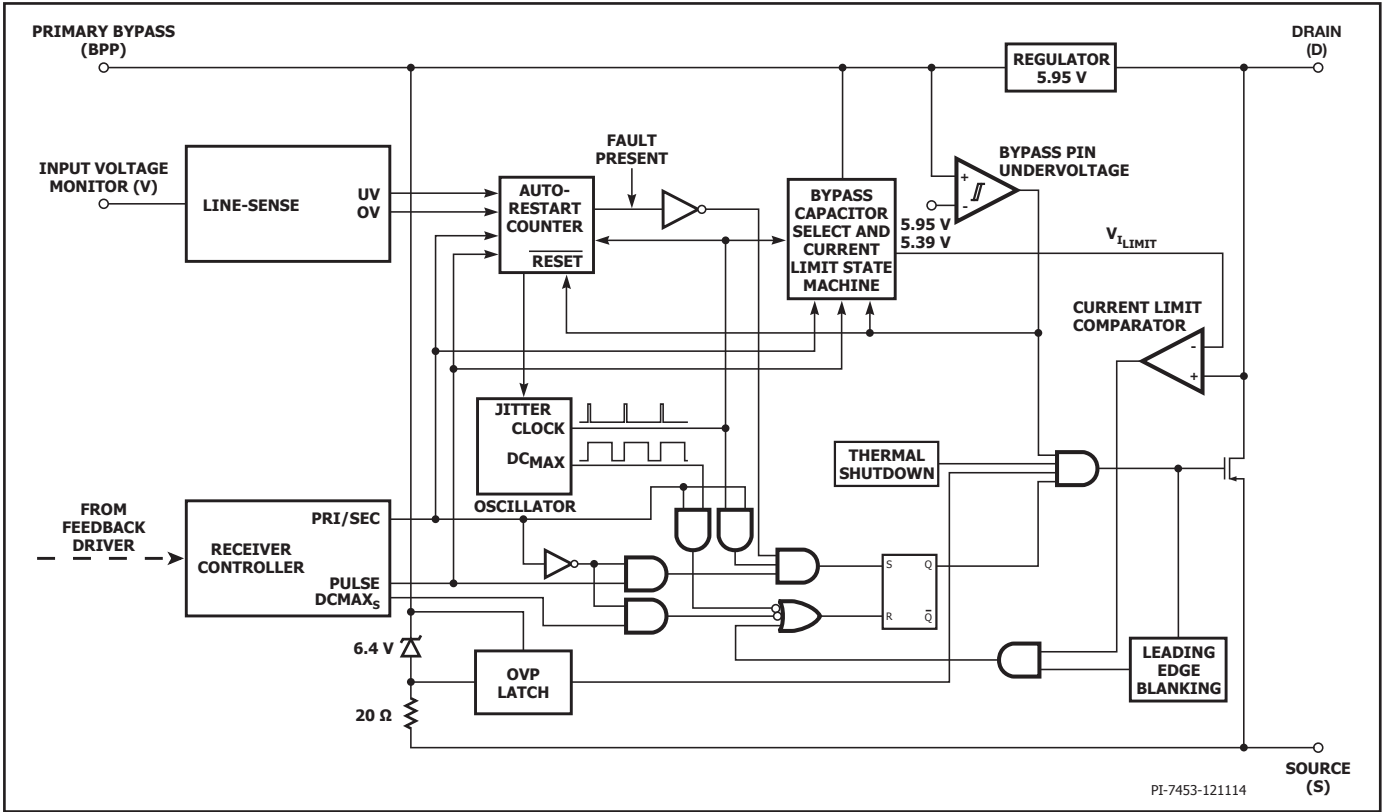

Figure 3. Primary-Side Controller Block Diagram.
The InnoSwitch-EP combines a high-voltage power MOSFET switch, along with both primary-side and secondary-side controllers in one device. It has a novel inductive coupling feedback scheme using the package leadframe and bond wires to provide a reliable and low-cost means to provide accurate direct sensing of the output voltage and output current on the secondary to communicate information to the primary IC. Unlike conventional PWM (pulse width modulated) controllers, it uses a simple ON/OFF control to regulate the output voltage and current. The primary controller consists of an oscillator, a receiver circuit magnetically coupled to the secondary controller, current limit state machine, 5.95 V regulator on the PRIMARY BYPASS pin, overvoltage circuit, current limit selection circuitry, over temperature protection, leading edge blanking and a 725 V power MOSFET. The InnoSwitch-EP secondary controller consists of a transmitter circuit that is magnetically coupled to the primary receiver, constant voltage (CV) and constant current (CC) control circuitry, a 4.4 V regulator on the SECONDARY BYPASS pin, synchronous rectifier MOSFET driver, frequency jitter oscillator and a host of integrated protection features. Figures 3 and 4 show the functional block diagrams of the primary and secondary controllers with the most important features.